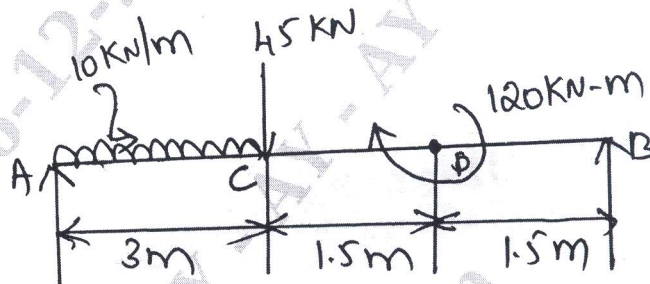

Fig Q5(b)
- b. A simply supported beam AB of 6m span is loaded as shown in Fig. Q5(b). Draw shear force and bending moment diagram also indicate the point of contra-flexure if any.